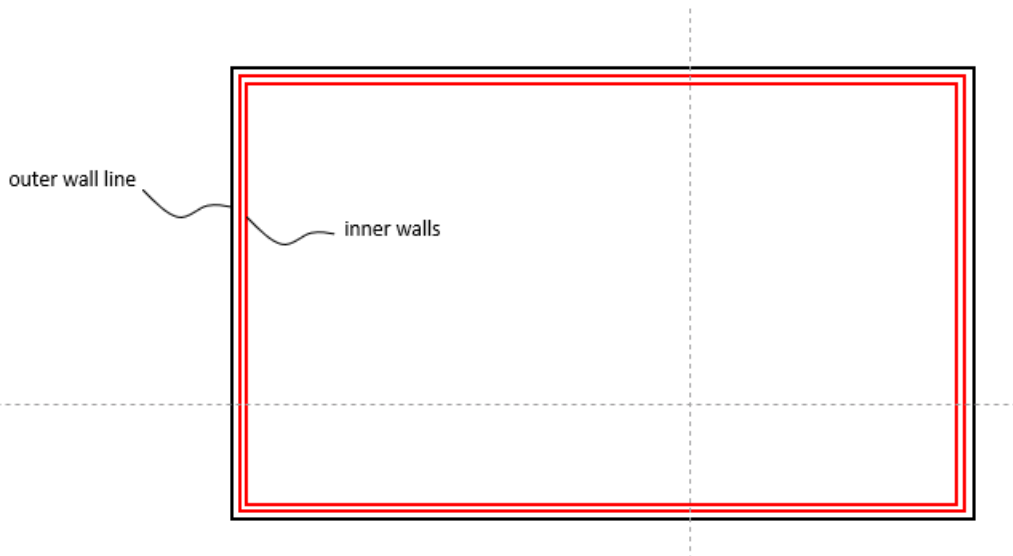

Fig. 2 Top view of a layer of a rectangular shaped object acc. to strategy 1
**Strategy 1.** Print the outer walls at the normal temperature and overheat all the inner walls. This will make the inner walls droop more, but since this is on the inside of the print, it's expected to not matter as much, as the outer wall is most defining for the accuracy. Figure 2 shows a top view of a layer of a rectangular shaped object with inner walls (see red lines) printed with an increased temperature.